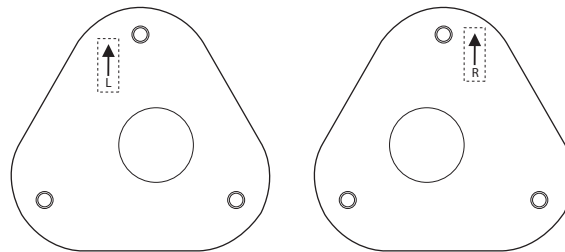

fig. 8
3. Before inserting the new strut assembly, look at the top of the supplied upper mount. Left and right struts are indicated on this mount with either a large “R” or “L” along with an arrow. This arrow must point toward the front of the vehicle (fig. 8). Insert the appropriate strut into the pocket, align the upper bracket with the arrow pointing to the front of the vehicle, and reinstall the upper mount nuts. Torque to 37 Nm (27 ft./lbs.).